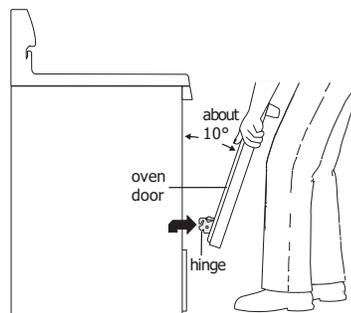

Figure 24: How to remove door
3. Firmly grasp both sides of oven door along the door sides. Do not use the oven door handle (See Figure 24).
1. Firmly grasp both sides of oven door along the door sides. Do not use the oven door handle (See Figure 24).